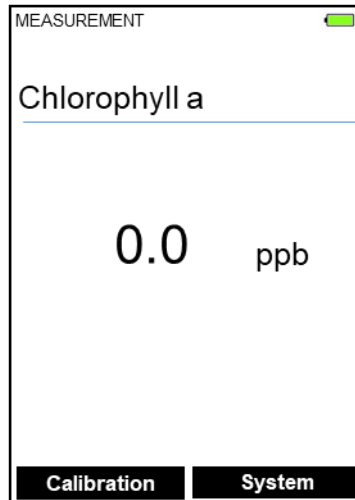

Figure 4
- 3) A screen similar to *Figure 4* will appear. The unit is actively reading and displaying the chlorophyll-a residual in the sample. The values will be very low if DI water is used; chlorophyll-a value should be near zero. A low non-zero value (e.g. 0.1 or 0.2, etc.) is normal and not problematic.